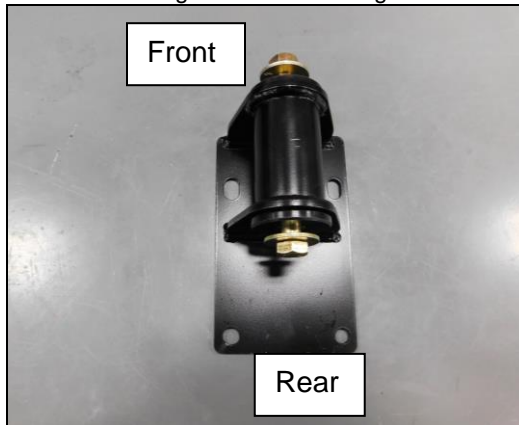

Figure 3
- Install the passenger's side (Right) mounting plate to the engine block using (x4) M10 x 25mm flange bolts provided. Install the mounting bracket with the engine mount bushing toward the front of the engine using the OEM engine mount locations (**Figures 3 & 4**).